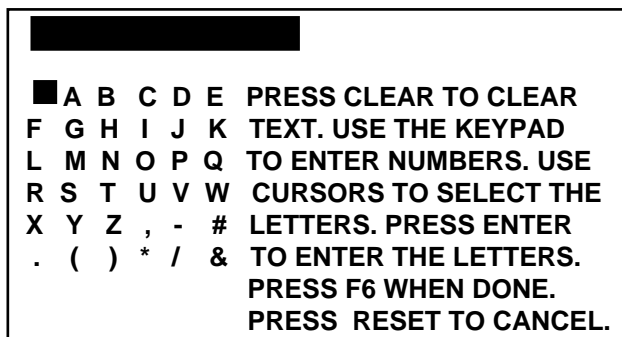

Figure 4-28. Overlay for entering text
- Use the cursor keys to highlight the name you want. Press ENTER to select it. If you want to make up a custom name, highlight “CUSTOM” and press ENTER. A screen overlay appears that allows you to enter up to twelve characters of text for a custom name, Figure 4-28.